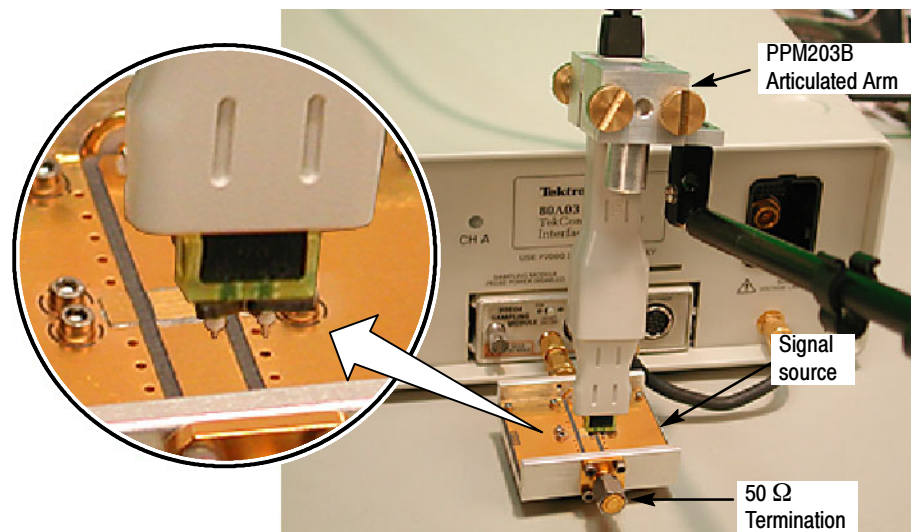

Figure 16: PPM203B Articulated Arm with the Handheld Adapter
3. Probe the calibration fixture using the Handheld Adapter (see Figure 16).
14. Connect the probe input to the probe calibration fixture as shown in Figure 16 on page 34. Check that the TDR function is still active.